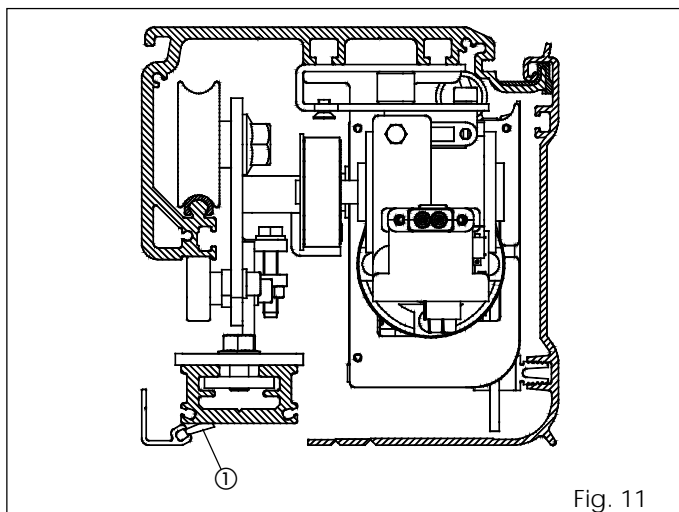

Fig. 11
ATTENTION: insert the brush (accessory fig. 11 ref. ①) in the closing profile before installing.